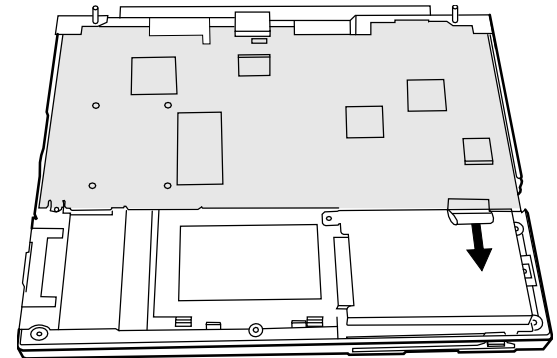

Figure 5-31. Unplugging the Floppy Disk Drive Cable
2. Connect the floppy disk drive cable to the system board.(fig 5-31)